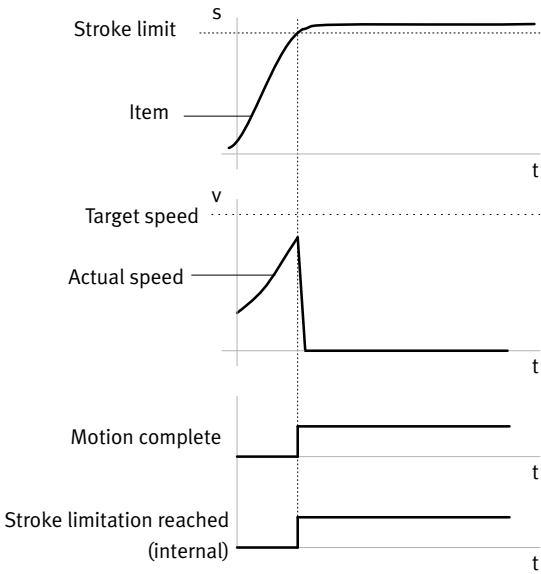
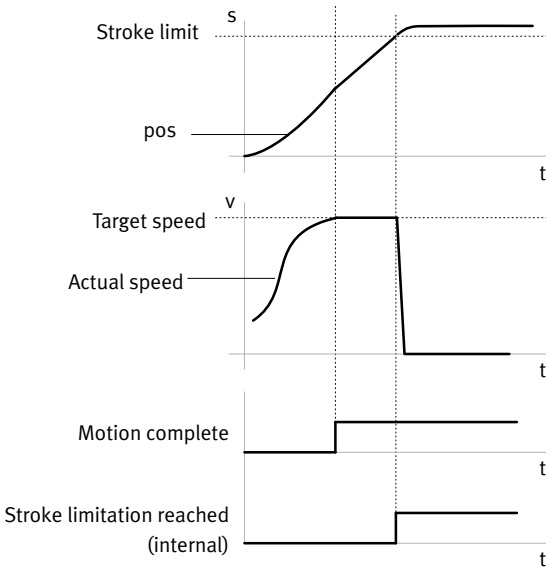

Fig. 2.6 Stroke limitation reached before target speed - example
Fig. 2.7 Stroke limitation reached after target speed - example
– Stroke limitation is reached first	The “Stroke limitation” signal is set. The actuator is braked down to a stop using the parameterised Quick-Stop deceleration function. Although the target speed has not yet been reached, the Motion Complete signal was set (→ Fig. 2.6 and Fig. 2.7) Open-loop operation: the actuator remains at the target position and is maintained in position with the predefined holding current. Closed-loop operation: the actuator remains position-controlled.